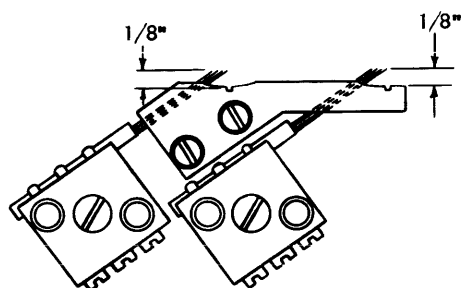

Figure 67. Carriage-Tape Brush Projection
1. Position the tape brushes for a $1'' (+\frac{1}{32}'', -0'')$ projection from the brush holder (Figure 67). Hold the range of adjustment as close as possible because of possible difficulties in timing the stop brushes to the E-1 emitter.